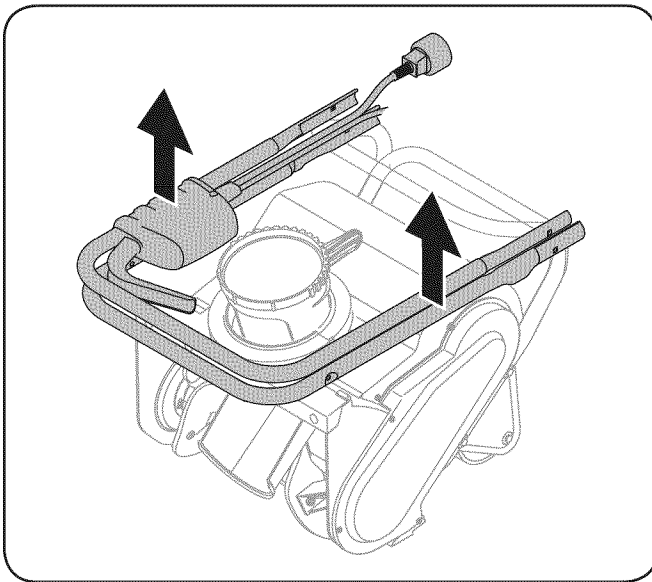

Figure 3-1
2. Lift the upper handle and mid handle up and off the snow thrower. See Fig. 3-1.